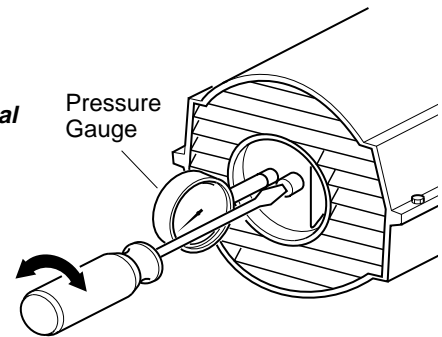
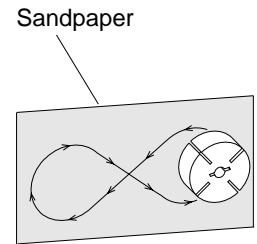

Figure 8 - Adjusting Pump Pressure
Figure 18 - Sanding Rotor
14. Place fine grade sandpaper (600 grit) on flat surface. Sand rotor lightly in “figure 8” motion four times (see Figure 18).